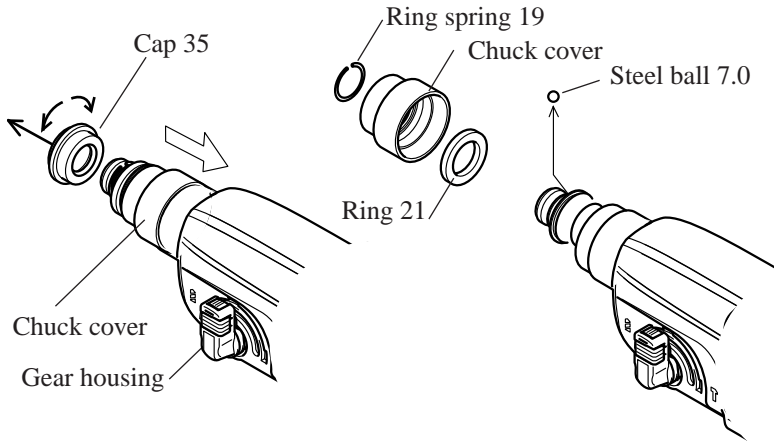

Fig. 1
1. Slide chuck cover in the direction of gear housing, and pull out cap 35 by turning. See Fig. 1.
4. Slide chuck cover in the direction of gear housing, and assemble cap 35 by turning. See Fig. 1.
1. Separate cap from change lever. See Fig. 1.